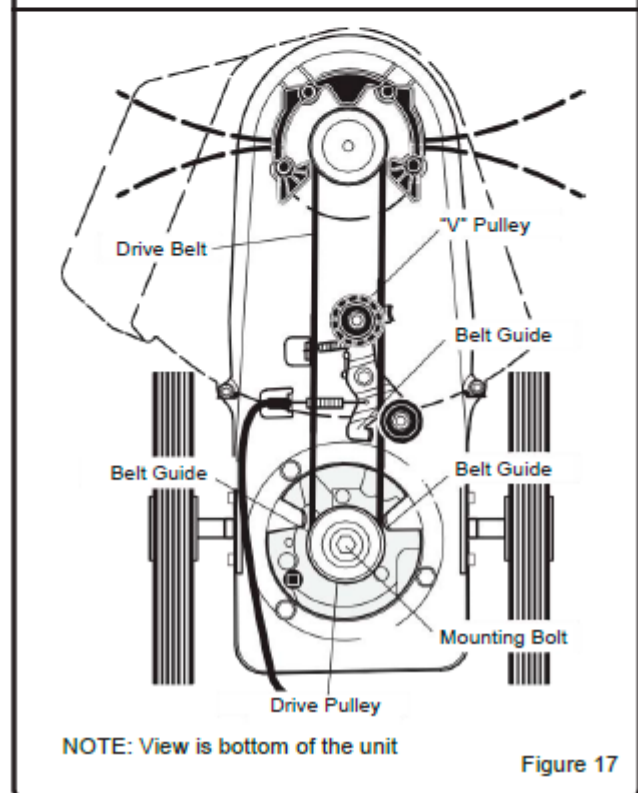

Figure 17
3. Remove the V-belt pulley from the bracket (Figure 17).
7. Check the direction of the drive belt and make sure the belt is correctly seated in the belt grooves and the belt is running straight and is not twisted. See Figure 17.